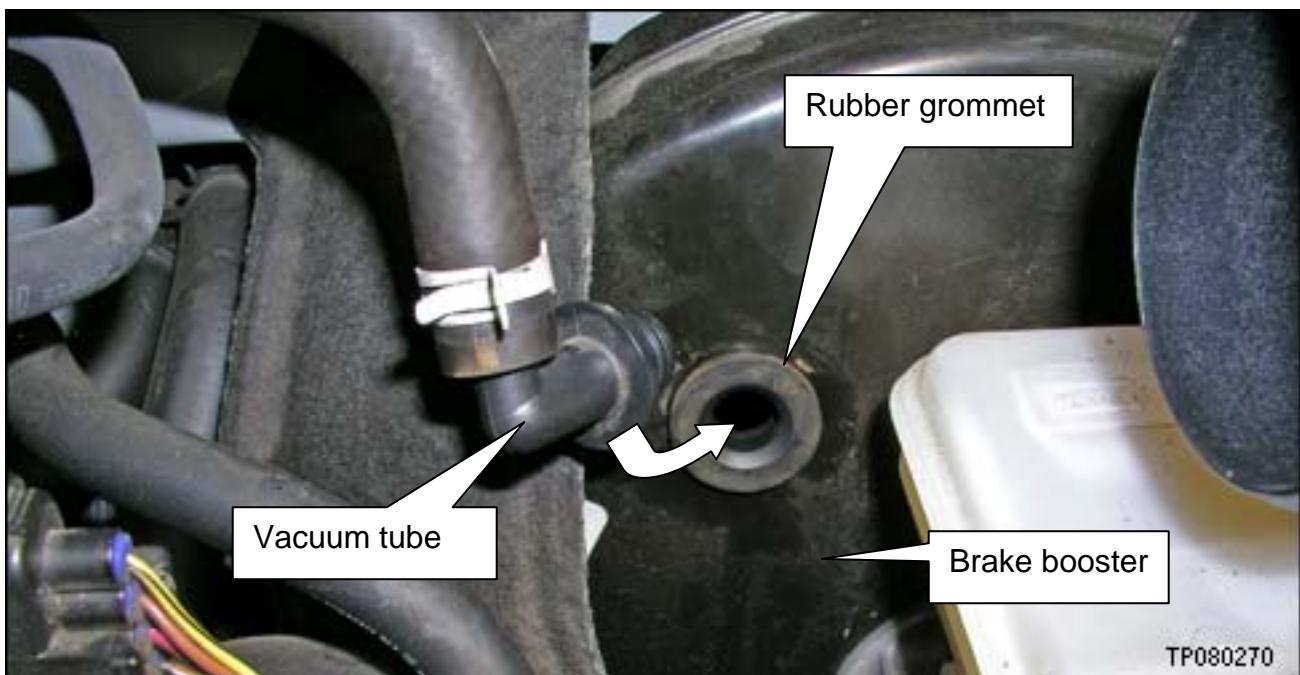

Figure 26
25. Install the vacuum tube rubber grommet into the brake booster (see Figure 26).
26. Carefully install / push the vacuum tube into the brake booster (see Figure 26).